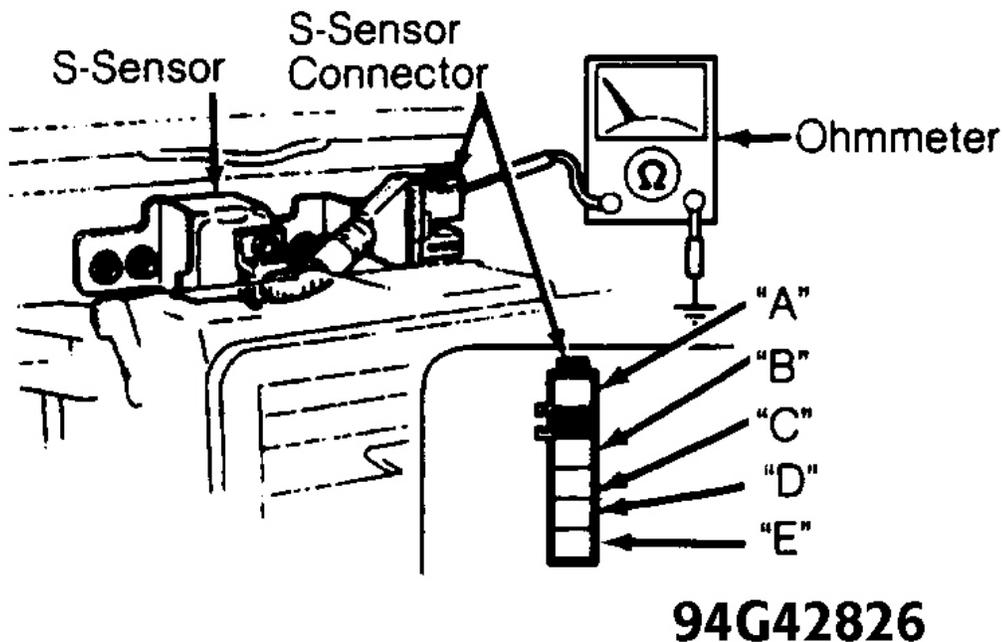

Fig. 9: Identifying S-Sensor Connector Terminals
2. Disconnect Orange and Blue S-sensor connector. Using a DVOM, check for continuity between S-sensor connector (sensor side) terminal "A" and ground. See Fig. 9 . If continuity is present, replace wiring harness. Perform TESTING - SYSTEM OPERATION CHECK . If continuity is not present, replace S-sensor. Perform TESTING - SYSTEM OPERATION CHECK .
2. Disconnect Orange and Blue S-sensor connector. Using a DVOM, check for continuity between S-sensor connector (sensor side) terminals "B" and "D". See Fig. 9 . If continuity is present, replace S-sensor. Perform TESTING - SYSTEM OPERATION CHECK . If continuity is not present, replace wiring harness. Perform TESTING - SYSTEM OPERATION CHECK .
2. Disconnect Orange and Blue S-sensor connector. Using a DVOM, check for continuity between S-sensor connector (sensor side) terminals "B" and "E". See **Fig. 9** . If continuity is present, replace wiring harness. Perform **TESTING - SYSTEM OPERATION CHECK** . If continuity is not present, replace S-sensor. Perform **TESTING - SYSTEM OPERATION CHECK** .
2. Disconnect Orange and Blue S-sensor connector. Using a DVOM, check for continuity between S-sensor connector (sensor side) terminal "B" and ground. See **Fig. 9** . If continuity is present, replace S-sensor. Perform **TESTING - SYSTEM OPERATION CHECK** . If continuity is not present, replace wiring harness. Perform **TESTING - SYSTEM OPERATION CHECK** .